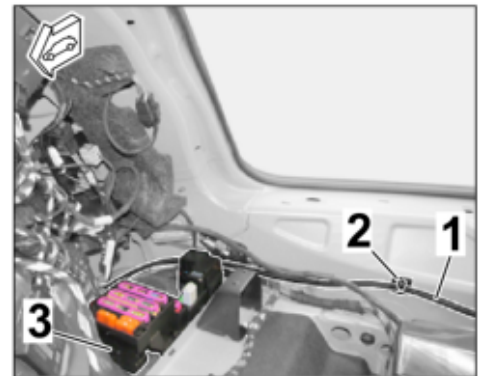

Figure 39
- Ground pin 43 (⇒ Figure 38 -1-) → main wire harness above wheel housing liner (left ⇒ Figure 38 -2-) → along main wire harness → rear closing panel (⇒ Figure 38 -3-) → fuse/relay carrier (rear right ⇒ Figure 39 -3-)
Detach fuse/relay carrier (rear right) if necessary (⇒ Figure 39 -3-)